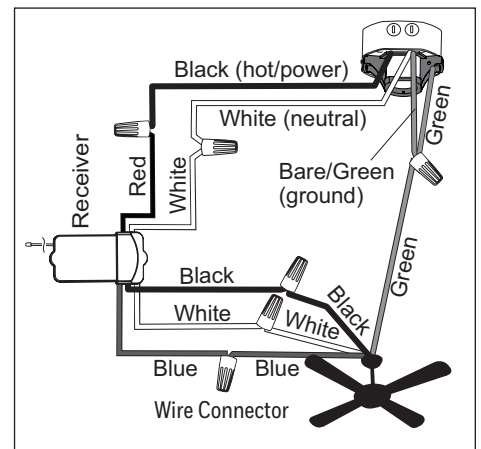

Figure 3.6
6. Secure all wiring connections together with wire connector from hardware bag and the wire connectors from remote pack according to the diagram and these steps (Figure 3.6):